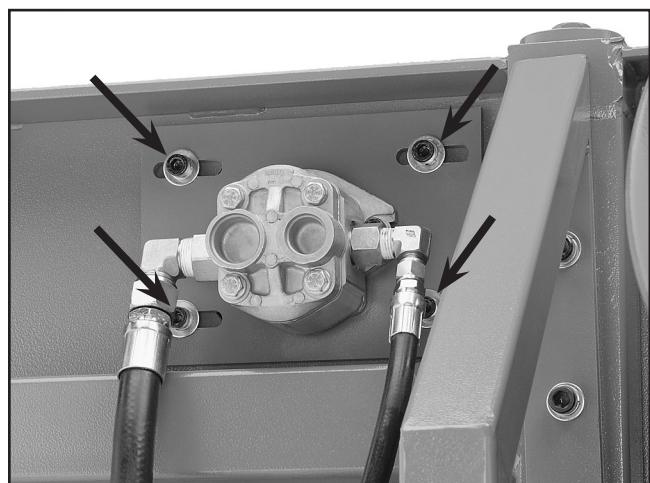

Figure 37. Pump seat cap screws.
- 2. Adjust the belt tension by loosening the cap screws shown in **Figure 37**.**